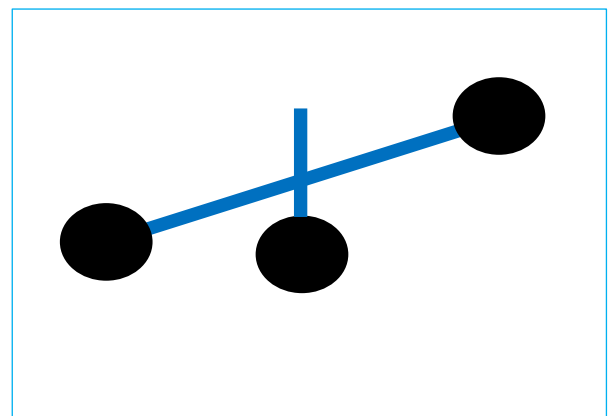

Figure 2 – Pipe overshoot
- Overshoots: A pipe end extends just past the pipe to which it is to be connected. See Figure 2.